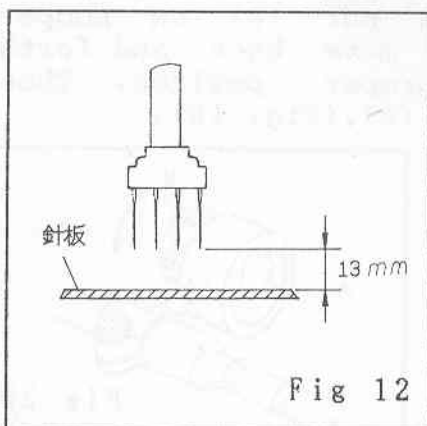

Fig 12
1. Needle tip should be 13 - 13.5 mm height from Needle Plate when Needle Bar moves to its top position. (Fig. 12)